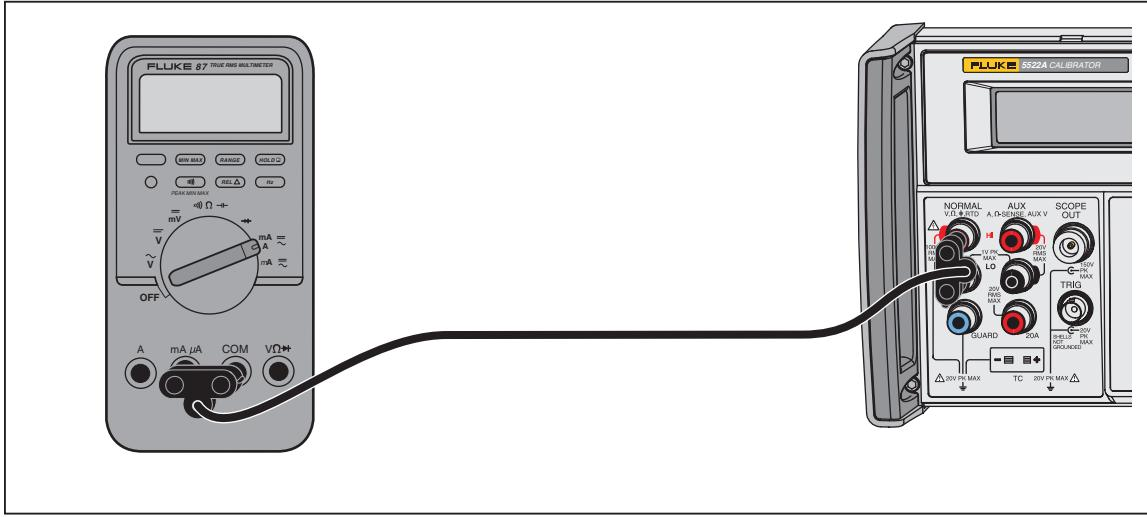

Figure 4-19. Cable Connections for Testing an 80 Series Current Function
- b. Verify that the calibrator is in standby and connect the DMM as shown in Figure 4-19
3. Connect a set of test leads to the DMM as shown in Figure 4-19.